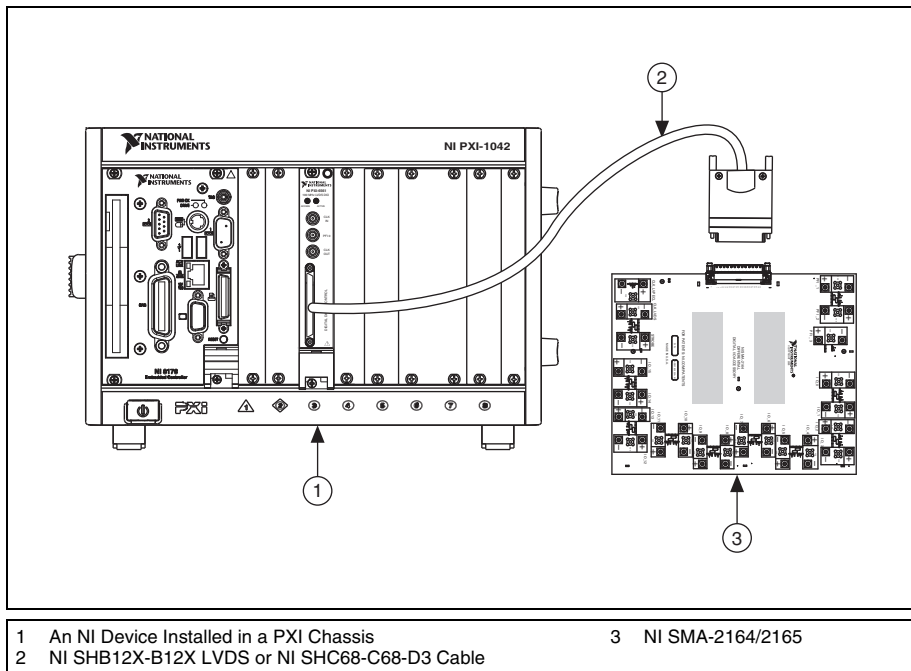

Figure 3. Connecting a Device to the NI SMA-2164/2165
The NI SHB12X-B12X LVDS cable is designed for use with the NI SMA-2164 and the NI SHC68-C68-D3 cable is designed for use with the NI SMA-2165. Figure 3 shows how to connect either of these cables to another NI device.
Refer to Figure 3 as you complete the following steps to install the NI SHB12X-B12X LVDS or the NI SHC68-C68-D3 cable.
3. Attach and secure the other end of the NI SHB12X-B12X LVDS or the NI SHC68-C68-D3 cable to the connector on the NI SMA-2164 or NI SMA-2165, respectively, and secure them together with the captive screws on the cable connector, as shown in Figure 3.